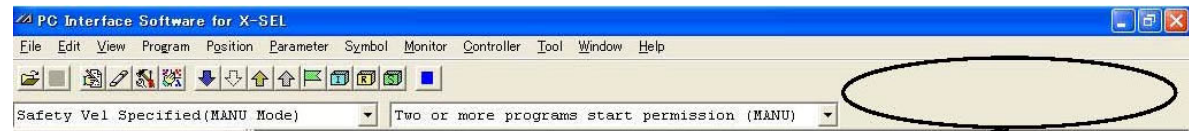

Fig. 8.31 Menu Bar
- (1) Right-click a blank space in the tool bar (refer to [Fig. 8.31]) while pressing **Ctrl** key. The Input Password will be displayed as shown in the Fig. 8.32.